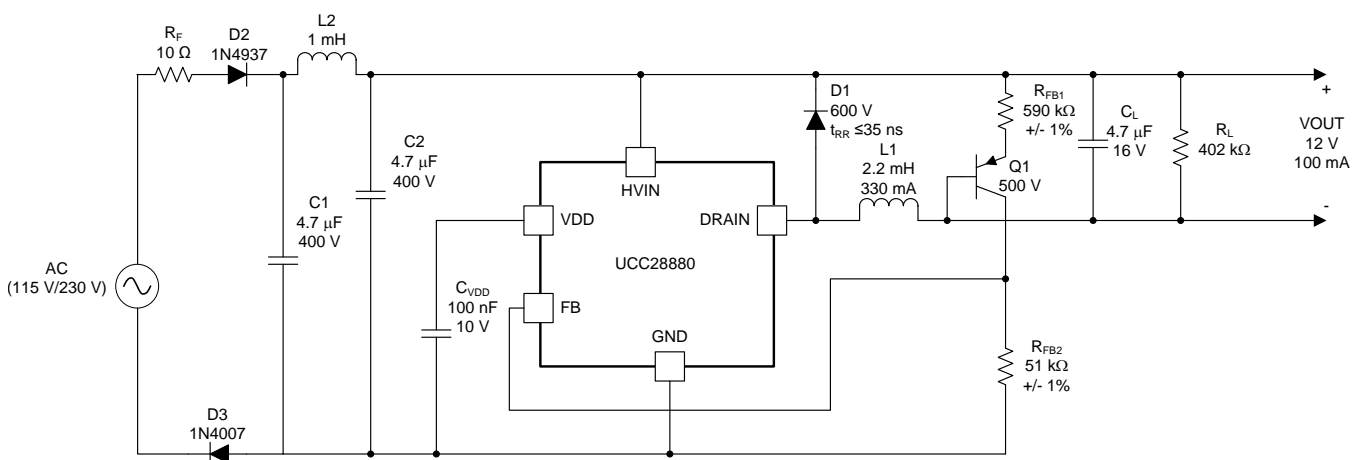

Figure 16. Universal Input, 12-V, 100-mA Output Low-Side Buck
Figure 16 shows a typical application example of a non-isolated power supply, where the UCC28880 is connected in a low-side buck configuration having an output voltage that is negative with respect to the positive input voltage (VIN+). The output voltage is set to 12 V in this example, but can easily be changed by changing the value of RFB1. This application can be used for a wide variety of household appliances and automation, or any other applications where mains isolation is not required.
- C_{BULK(min)} is minimum value for the total input capacitor value (C1 + C2 in the schematic of Figure 16).